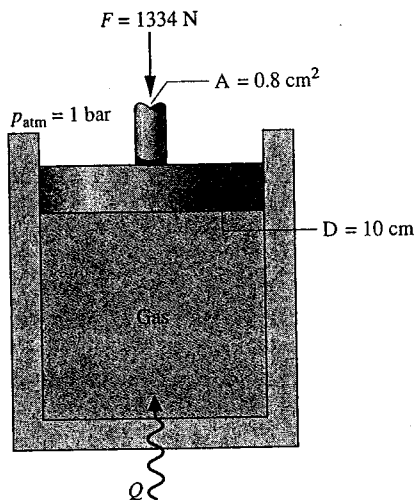

Fig. P2.70
**2.70** Figure P2.70 shows a gas contained in a vertical piston–cylinder assembly. A vertical shaft whose cross-sectional area is 0.8 cm2 is attached to the top of the piston. The total mass of the piston and shaft is 25 kg. While the gas is slowly heated, the internal energy of the gas increases by 0.1 kJ, the potential energy of the piston–shaft combination increases by 0.2 kJ, and a force of 1334 N is exerted on the shaft as shown in the figure. The piston and cylinder are poor conductors, and friction between them is negligible. The local atmospheric pressure is 1 bar and  $g = 9.81 \text{ m/s}^2$ . Determine, (a) the work done by the shaft, (b) the work done in displacing the atmosphere, and (c) the heat transfer to the gas, all in kJ. (d) Using calculated and given data, develop a detailed accounting of the heat transfer of energy to the gas.